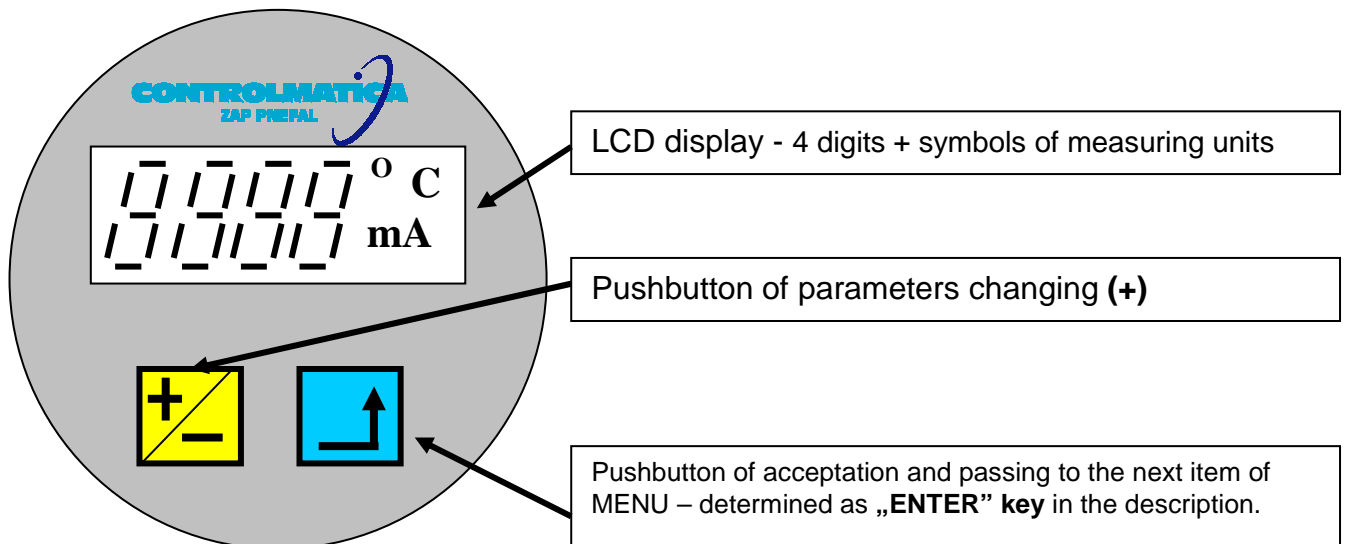

Fig. 7.2. View of the encoder front panel, with description of functions
- Setting of the rotation direction P--- right or L--- left (see fig. 7.2). Change in the rotation direction does not change the places of 4mA point position, but it causes that current value increases to the right or left from 4mA point.